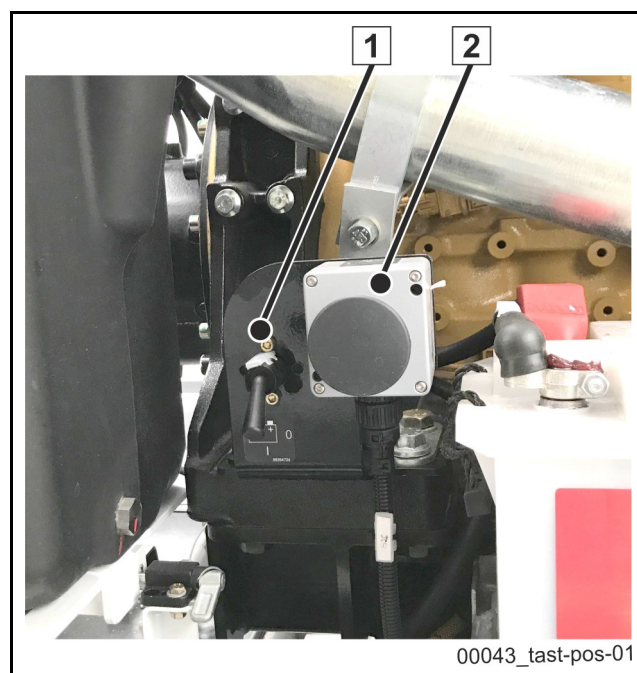

Fig. 24
To do so, actuate the button (2) (**Fig. 24**).